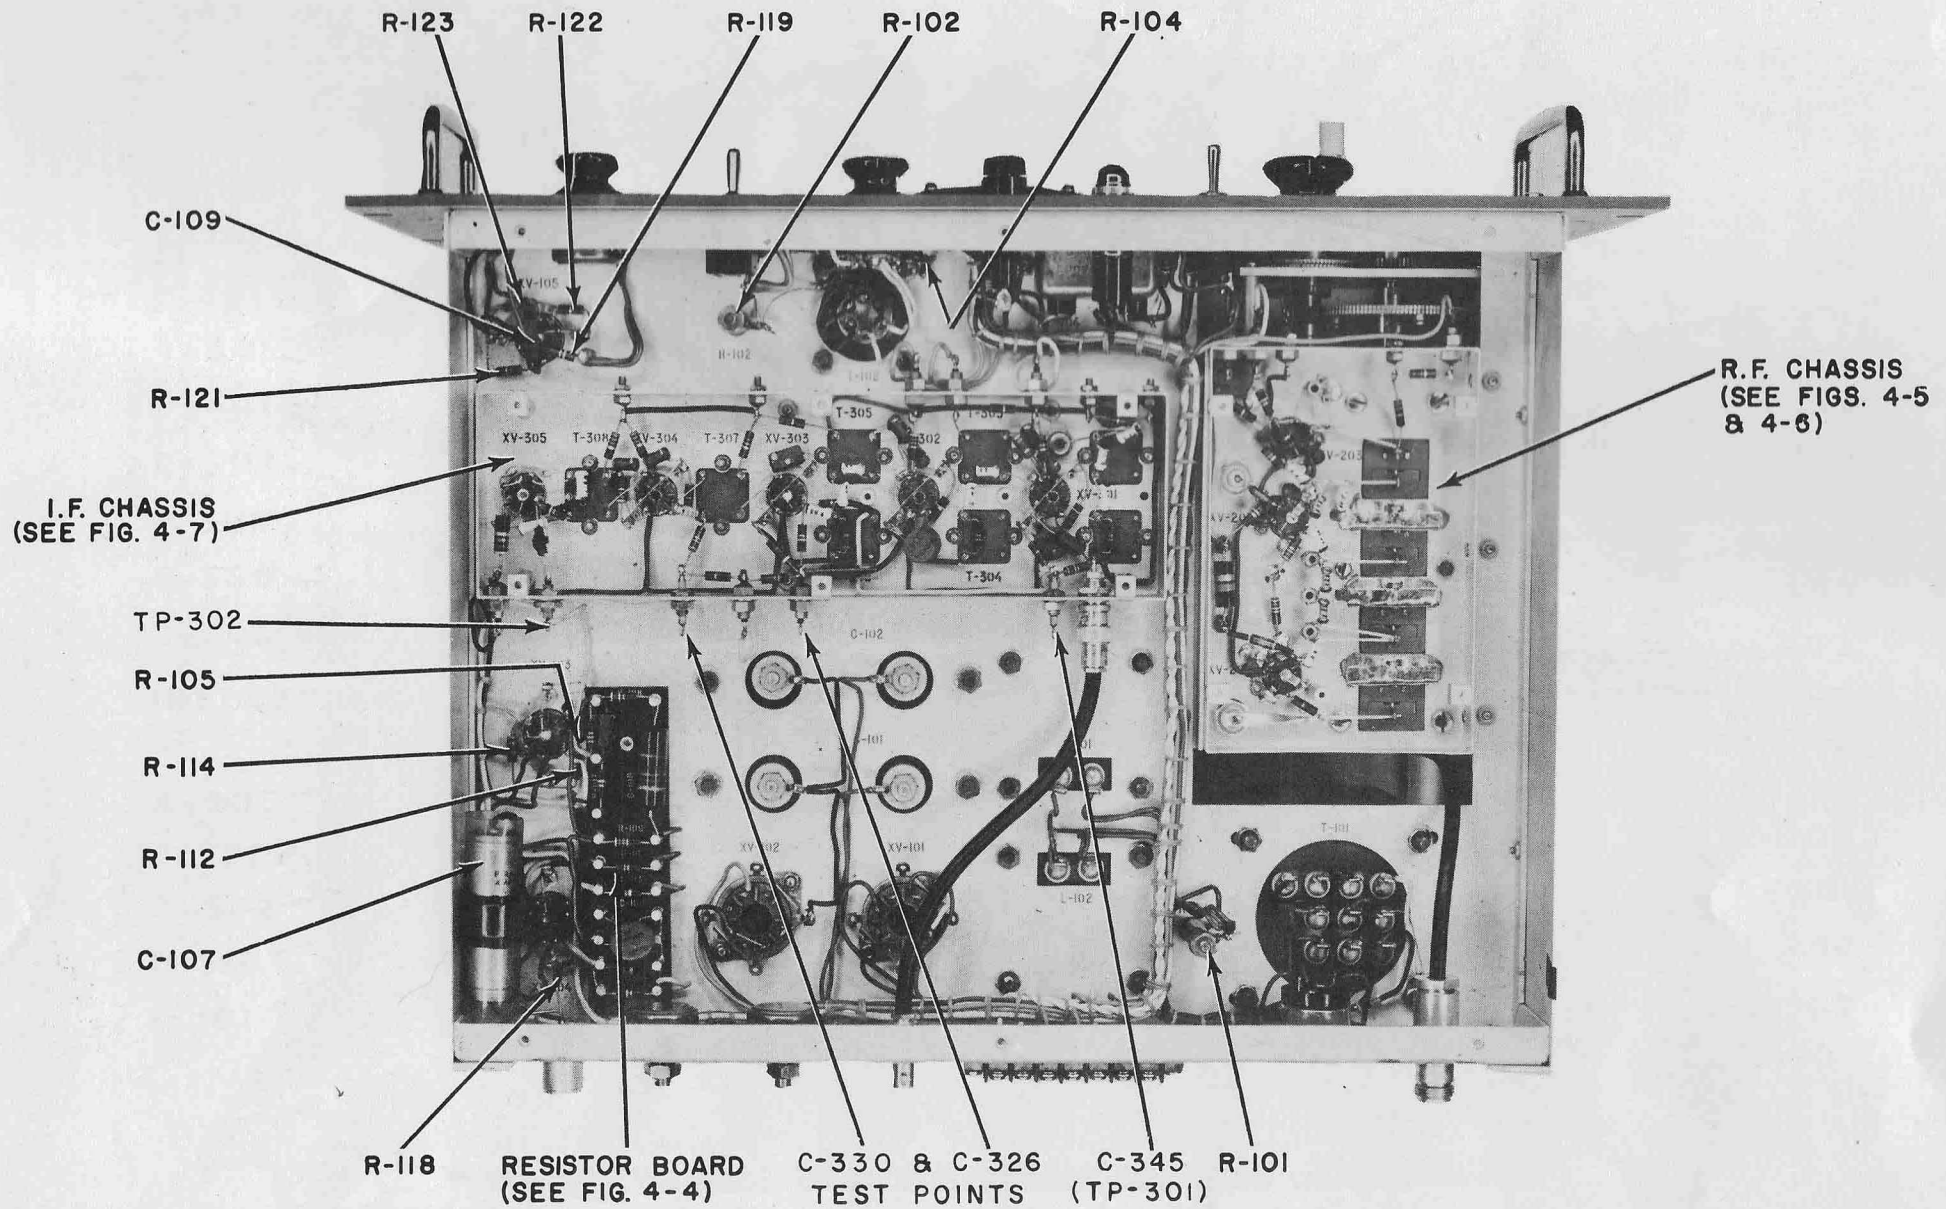

Figure 4. Models 1671-1674 Special Purpose Receivers, Bottom View, Dust Cover Removed.
(1) Adjust C-216 for correct tuning-dial indication at 100 mc on Models 1673 and 1674 (190 mc on type A, models 1671 and 1672).
(2) Check for correct tuning dial indication at 255 mc. To correct for a high tuning dial indication, remove the RF chassis cover and reconnect C-214 closer to the inductuner. Replace RF chassis cover securely.
(3) Alternate between steps (1) and (2) until the stated frequencies are indicated correctly on the dial within ± 0.2 mc.
(4) If steps 5, b, (1) through (3) above fail to produce the desired results, the inductuner dial adjustment should be checked as follows;
(5) Loosen the Allen set screws of the mechanical stops on the dial shaft back of the gear train. Figure 4.
(6) Rotate the dial to the high frequency end until it is stopped by the inductuner stop mechanism. The triangle marker should be coincident with the hairline. If it is, continue with steps (8) and (9) below. If not, proceed as follows;
(7) Loosen the set screws of the gear on the inductor shaft and reset the dial triangle pointer coincident with the hairline. Tighten the screws.
(8) To set the high-end mechanical stop, turn the dial to the high frequency end until the triangle pointer is coincident with the hairline, then back to the left-hand corner of the triangle, and tighten the set screws.
(9) To set the low-end mechanical stop, turn the dial to the low frequency end until the triangle pointer is coincident with the hairline, then back to the right hand corner of the triangle, and tighten the set screws.